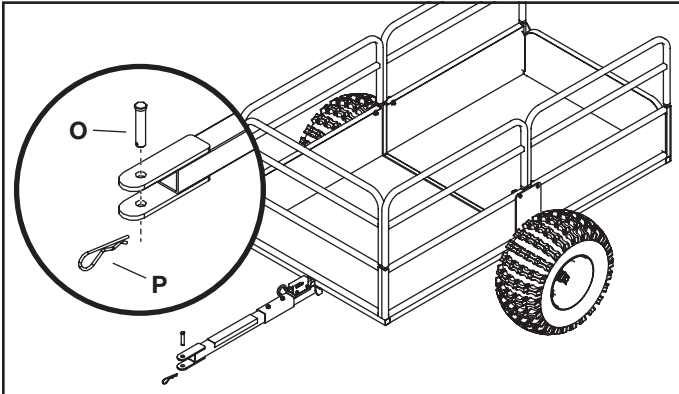

FIGURE 7
STEP 7: (SEE FIGURE 7)
- Use the clevis pin (O) and hair cotter pin (P) to attach the cart to your vehicle.